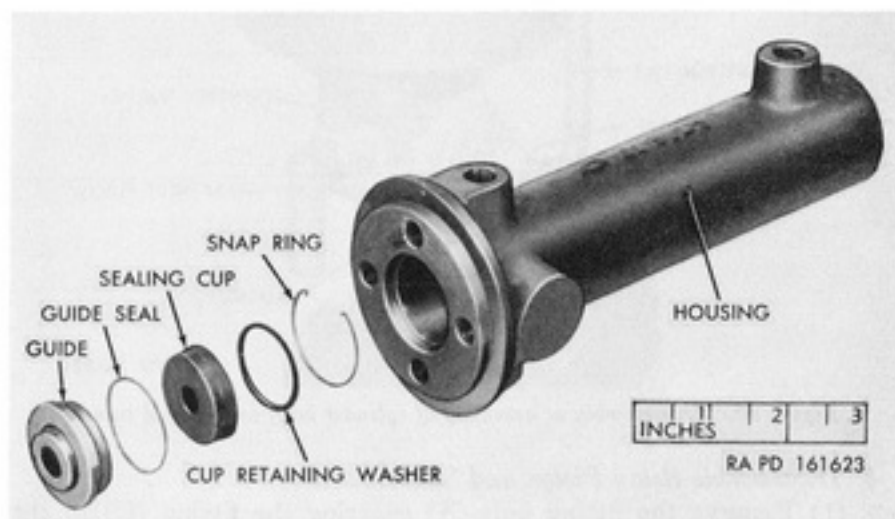

Figure 98. Push rod guide and seals—exploded view.
- (3) Remove the plug ((1) above) from the vise, and remove and discard the plug gasket (B). Remove the connector (N) and gasket (M) from the plug. Discard the gasket.
- (4) Remove the two bleeder valves (C) and the inlet plug (A) and plug gasket (B) from the housing (D). Discard the gasket.
c. *Removal of Push Rod Guide and Seals* (fig. 98). Remove the push rod guide, the guide seal, the sealing cup, and cup retaining washer from the bore of the slave cylinder housing. Remove the snap ring. Discard the guide, seal, sealing cup, and snap ring.